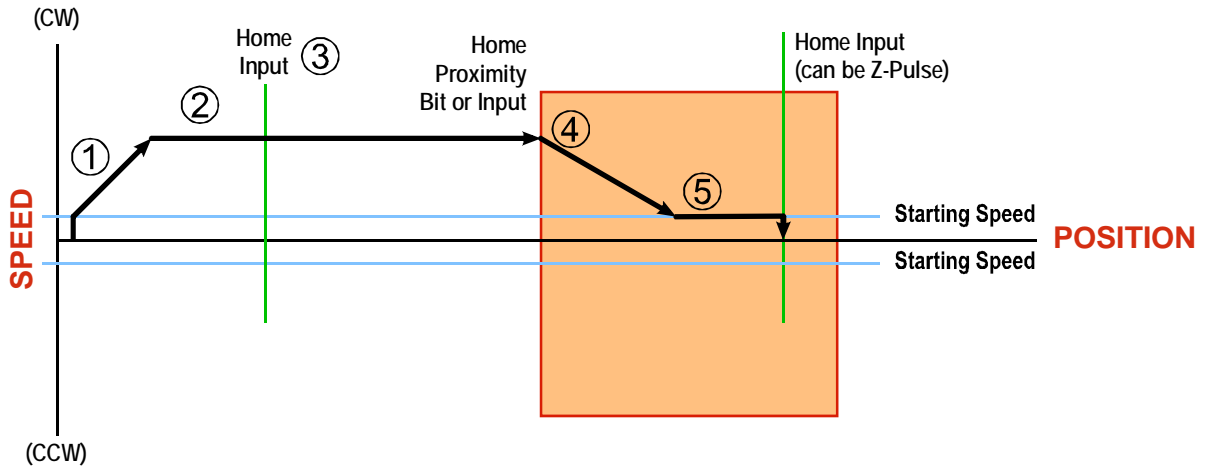

Figure 3.2 Homing with Proximity
Figure 3.2 below shows the move profile generated by a +Find Home command when you use:
**NOTE** Figure 3.2 shows the Backplane Home Proximity Bit staying active until the ANG1(M) reaches its home position. This is valid, but does not have to occur. As stated in step 4, the ANG1(M) starts to hunt for the home position as soon and the Backplane Home Proximity Bit makes a 0→1 transition